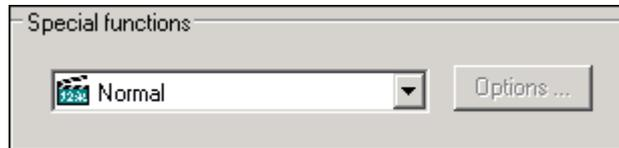

Fig. 48 Special functions group field on the Alarm output tab
The field selection **Normal** means **no special function** (see "Fig. 48 ", page 58).
2. Select a special function from the **Special functions** dropdown list (see "Fig. 48", page 58).